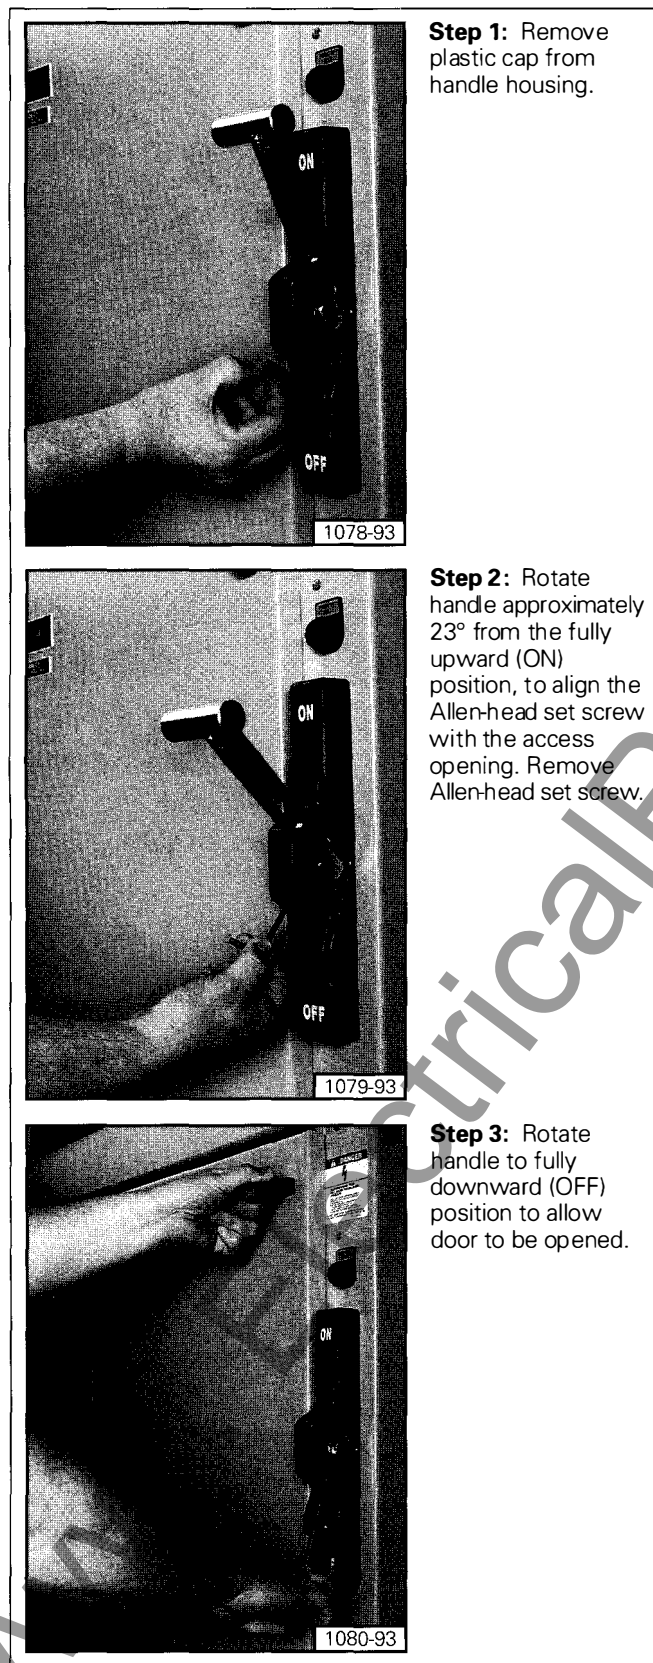

Figure 3. Procedure for defeating the door-handle interlock
The defeater can be reached by removing a plastic cap from the lower part of the handle housing, then by removing the Allen-head set screw. The racking handle must be rotated approximately 23 degrees from the fully upward (ON) position of the handle in order to align the Allen-head set screw with the access opening. When the Allen-head set screw is removed, the handle can then be moved to the OFF position, allowing the door to be opened. Refer to **Figure 3**.